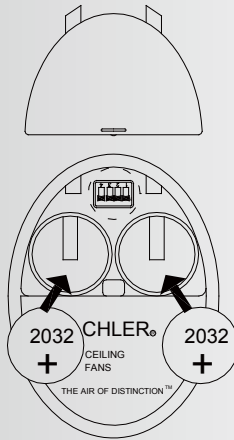

Fig. 28
Step 1. Install 2,3 volt # 2032 battery included with the CoolTouch™ Control system and make sure they are seated correctly in each recess with the Positive + Sign facing up. Replace the battery cover . (Fig. 28)
Step 2. Test the transmitter by pushing and releasing ANY button. A Blue Light should illuminate, if not, check to make sure the batteries are inserted and seated correctly. (Fig. 28)